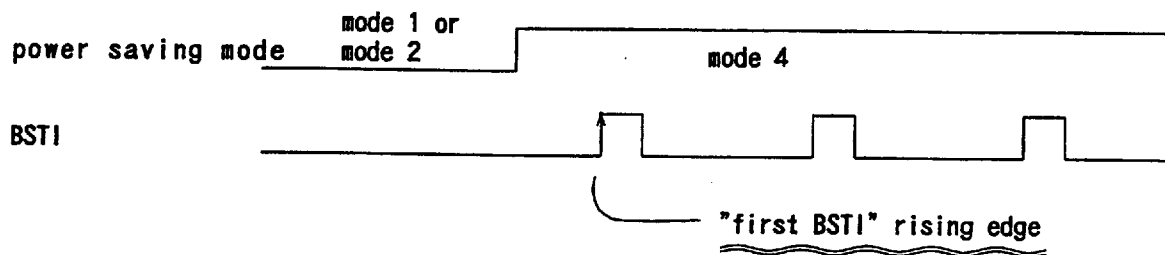

Fig. 3
- ① The "first BSTI " is defined as first burst signal input after recover of power down mode (full power down condition [mode 1] or partial energization condition [mode 2]). (Ref. Fig.3) All timing inside the AK2391 use the rising edge of "first BSTI" as the start point. So, 384kHz internal clock, output signal, and another timing are decided by this rising edge.